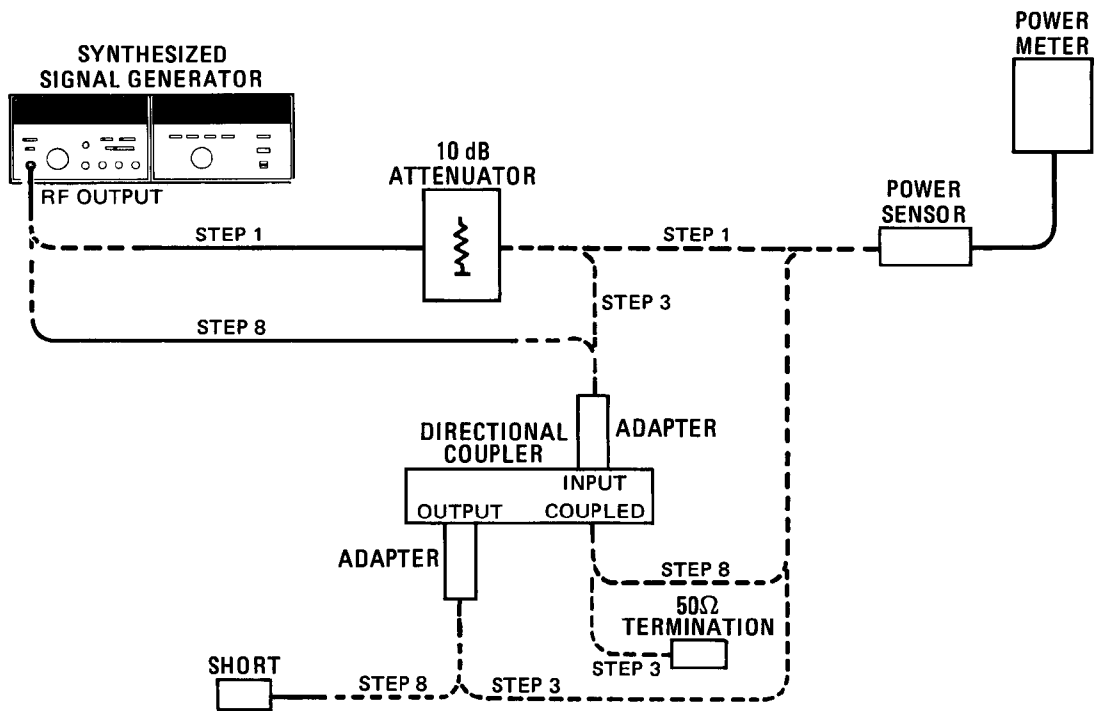

Figure 4-2. SWR Test Setup
1. Set Synthesizer's controls for an output of 3 GHz at -12 dBm, connect the 10 dB attenuator to Synthesizer's RF OUTPUT connector and measure the power output with the power meter. See Figure 4-2, Step 1. 3 GHz \_\_\_\_\_ dBm
3. Connect the equipment as shown in Figure 4-2 (step 3).
8. Connect equipment as shown in Figure 4-2 (step 8).